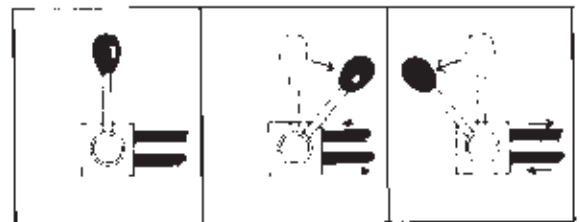

Figure 5
1. Place the valve handle in the neutral position as shown in Figure 5.
3. To advance the cylinder, position the valve handle as shown in Figure 5.
4. To retract the cylinder, position the lever as shown in Figure 5. Place the valve handle in neutral to stop the cylinder.